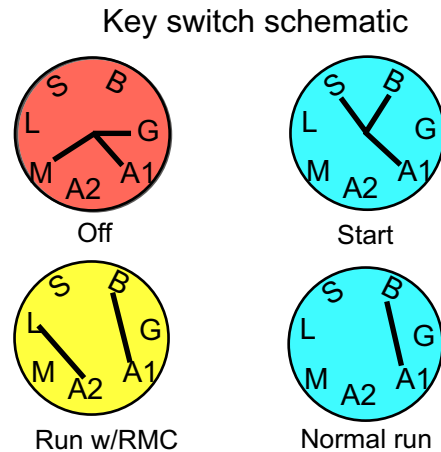

Figure 7.2
- In the "OFF" position, continuity can be found between the M, G, and A1 terminals. See Figure 7.2.